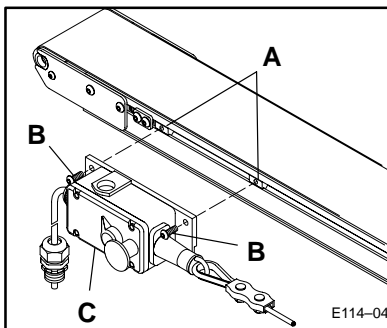

Figure 4: E-Stop Box Assembly to Conveyor Attachment Detail
- b. Refer to Figure 4 and attach Box assembly Mounting Plate to the two Single Drop-in T-bars, using the M6 x 16 mm Button Head Cap Screws (B). Tighten Screws with 4 mm Hex Key Wrench (Q) provided.